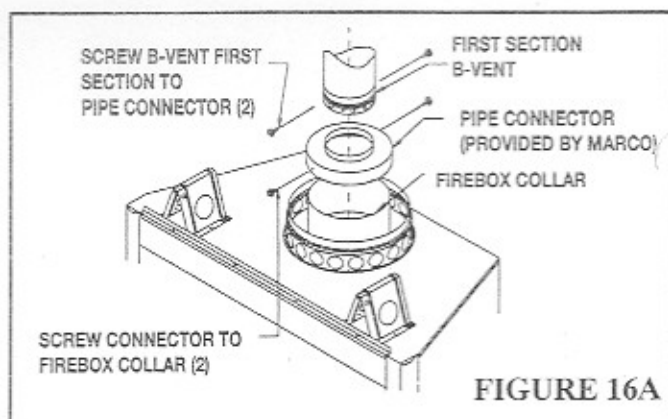

FIGURE 16A
- 1) BEFORE CONNECTING THE FIRST SECTION OF B-VENT, THE PIPE CONNECTOR PROVIDED WITH THE FIREPLACE MUST BE SECURED TO THE FIREBOX COLLAR WITH TWO 3/4" SHEET METAL SCREWS. (SEE FIGURE 16A.).
- 2) THE FIRST SECTION OF B-VENT MUST BE SECURED TO THE FIREPLACE PIPE CONNECTOR WITH TWO 3/4" SHEET METAL SCREWS AS SHOWN ON FIGURE 16A.